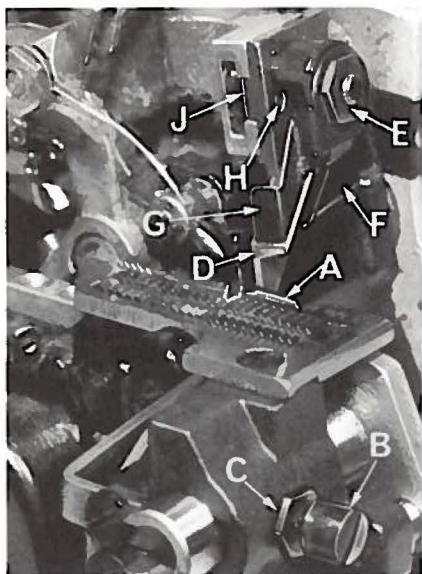

Fig. 12
Replace lower knife holder assembly. Lower knife (A, Fig. 12) should be set with cutting edge flush with throat plate surface. Adjustments are made with hexagonal head screw which holds lower knife. Lower knife is spring pressed against upper knife, so no lateral adjustment is necessary when width of trim is changed.
Replace upper knife assembly. Clamp upper knife (D, Fig. 12) in position, setting nut (E) to hold clamp (F) in its most clockwise position against upper knife. At bottom of its stroke, front cutting edge of upper knife should extend not less than 1/64 inch below cutting edge of lower knife. The chain guard (G) should be set down against the upper knife and slightly back from the cutting edge.